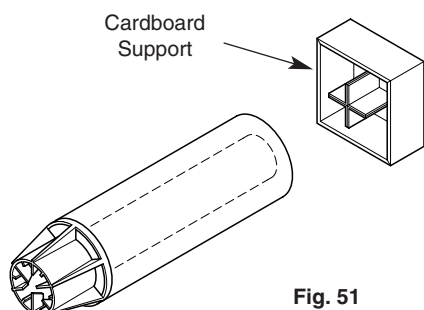

Fig. 51
7. The cardboard support supplied in the flue pack should be installed onto the flue tubes to ensure the assembly is supported during cutting (Fig. 51 & 52).